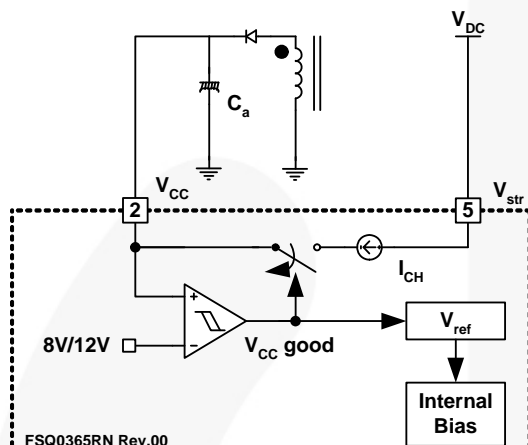

Figure 20. Startup Circuit
**1. Startup:** At startup, an internal high-voltage current source supplies the internal bias and charges the external capacitor ( $C_a$ ) connected to the  $V_{CC}$  pin, as illustrated in Figure 20. When  $V_{CC}$  reaches 12V, the FPS™ begins switching and the internal high-voltage current source is disabled. The FPS continues its normal switching operation and the power is supplied from the auxiliary transformer winding unless  $V_{CC}$  goes below the stop voltage of 8V.